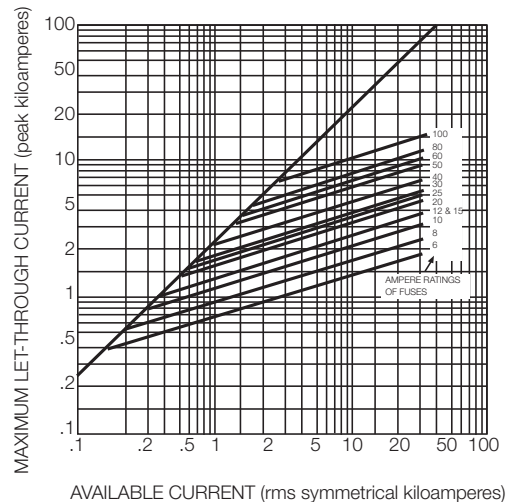

Figure 8. Maximum let-through current for NX current-limiting fuses – 27 and 38 kV.
** See Figure 8 for dimensional drawing.